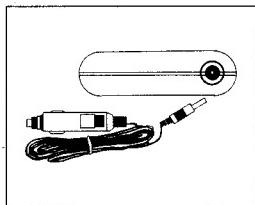

Figure 2b
Car Cord - Plug the car cord power adapter(J) into the car's cigarette light socket; then, plug the other end into the charger's power input (A). See Figure 2b.